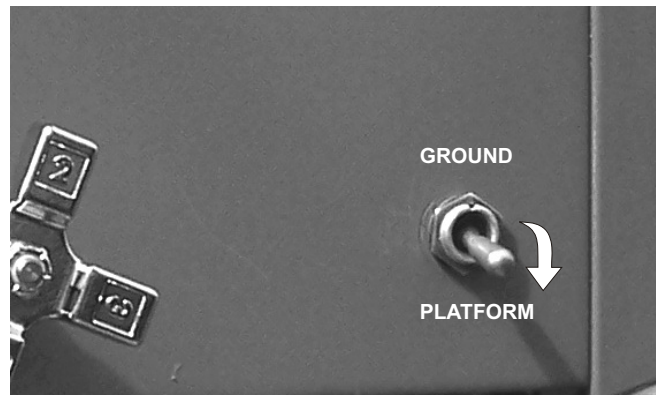

Figure 9.11 - Ground / Platform Selector
1. Select PLATFORM on the ground/platform selector switch at the rear of the column (see Figure 9.11).